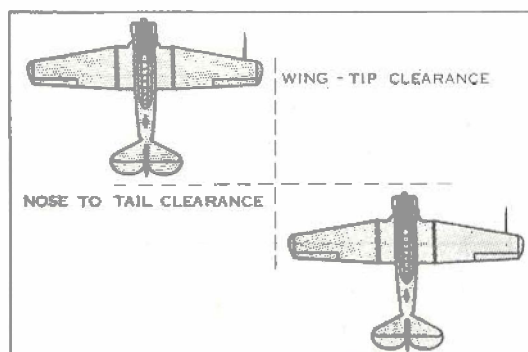

Figure 1: Echelon Right
(1) The basic formation consists of two aircraft and is called an element. The element leader is always known as NUMBER ONE, his duty being to direct the element in an attack, while the other aircraft, NUMBER TWO, is his wingman responsible for keeping a look-out and protecting the leader.
(2) In Figure 1, an element is shown in ECHELON RIGHT which, along with ECHELON LEFT, is the most common two-plane formation. Notice that Number Two is positioned so that the wingtips of the two aircraft have clearance if Number Two over-runs his leader, and that there is clearance between the tail of Number One and the propeller of Number Two. In the correct position, Number Two should be slightly below Number One so that equal portions of his leader's wing is visible above and below its trailing edge.